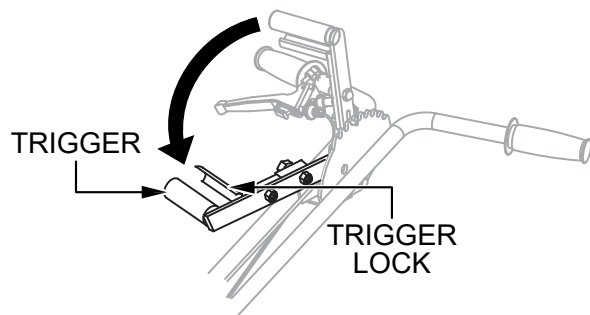

Figure 11. Blade Pitch Cable Adjustment (Quick Pitch™ Handle)
2. For trowels equipped with a **Quick Pitch™** handle, squeeze the trigger lock and push the trigger towards the engine to release tension on the blade pitch cable. See Figure 11.